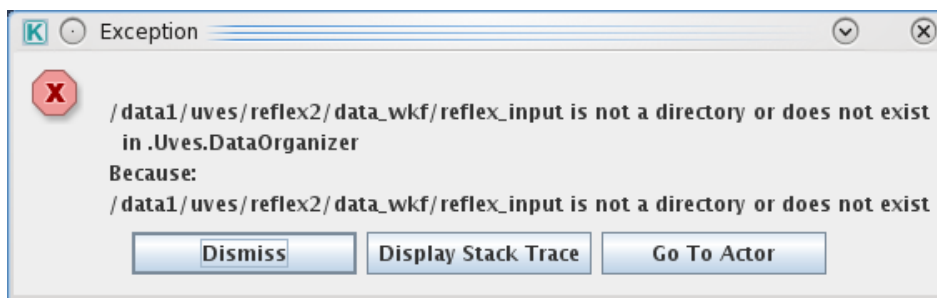

Figure 9.1: *TheDataOrganizer* interactive window reports an error “:No Datasets have been created, check the DataSet and the OCA rules.”.
- (b) **it fails with error message “:No DataSets have been created, check the data set and the OCA rules.”(see Figure 9.1.)**